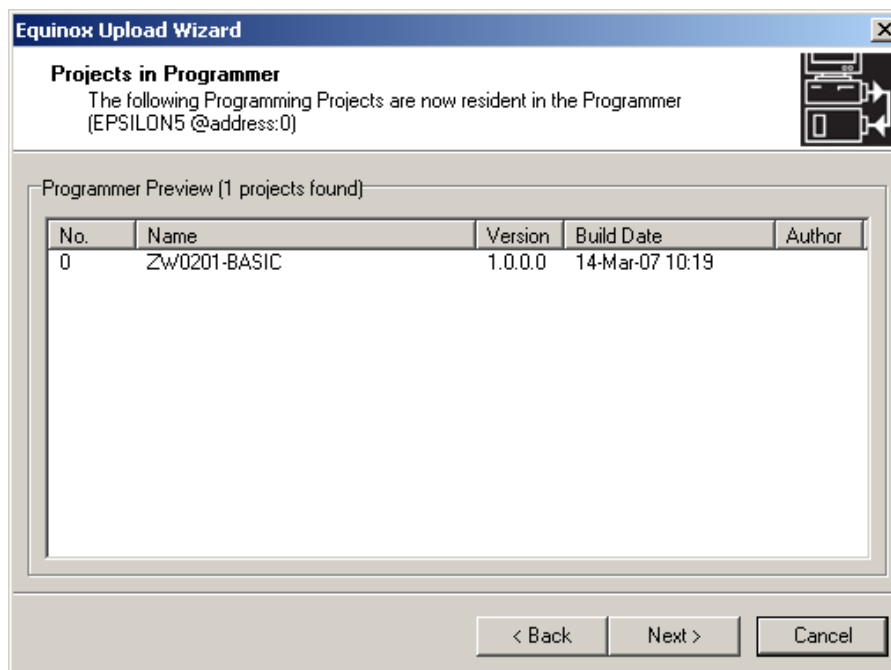

Figure 26 Programmer Upload Wizard – Resulting Projects in programmer
9. Press *OK* and the window depicted in Figure 26 will open